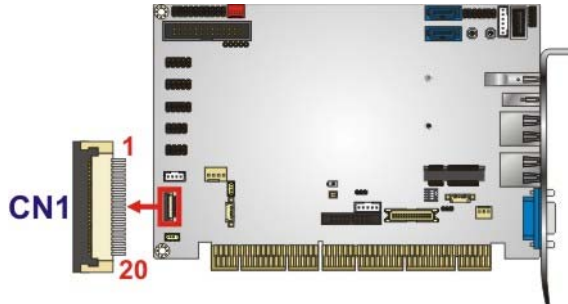

Figure 3-7: EC Debug Connector Location
- CN Location:** See **Figure 3-7**